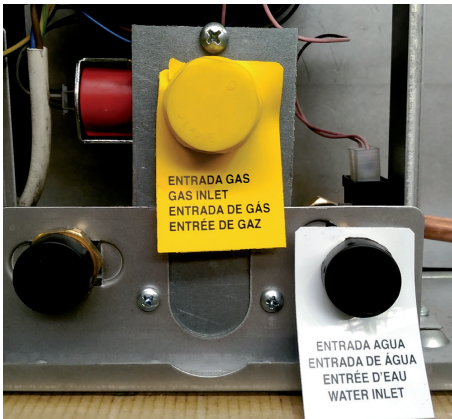

fig. 10 - Connection cards
- 7 - Remove the plugs from the water and gas connections (see fig. 10).